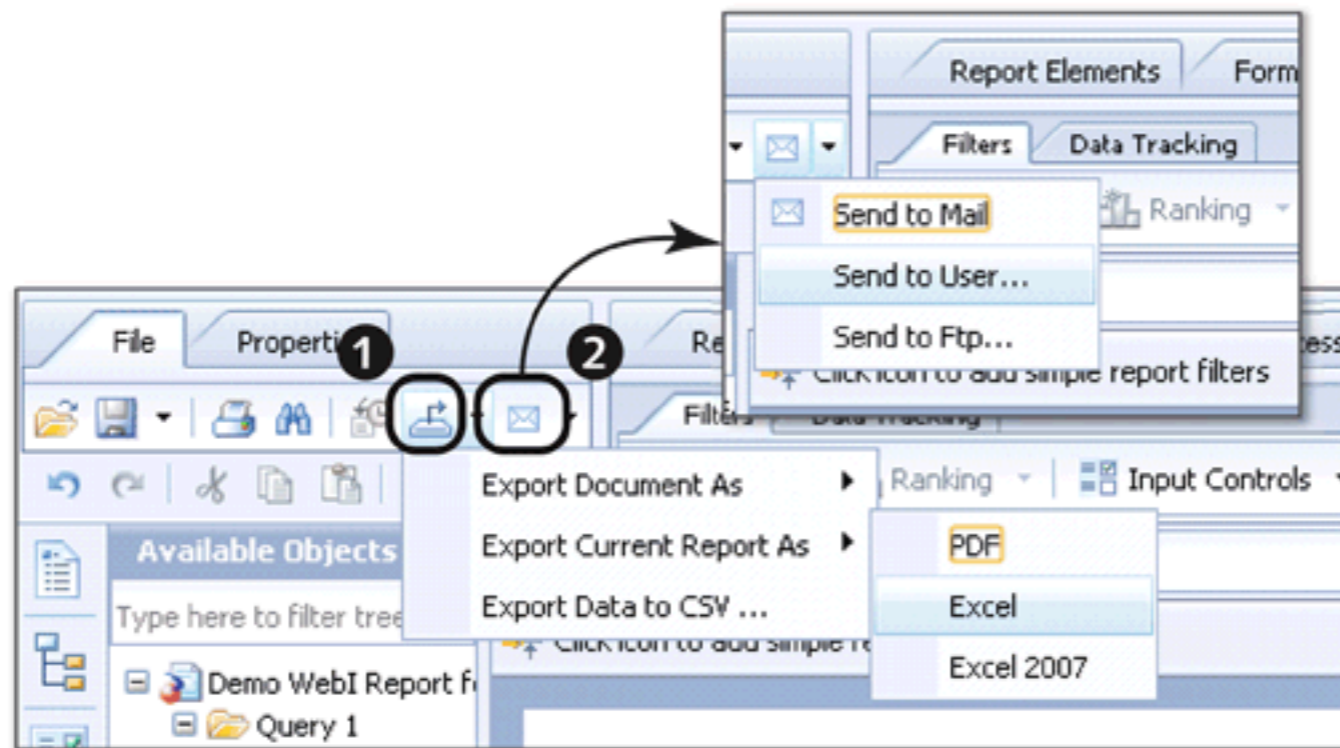

Figure 13.11 Export and Collaboration Options with SAP BusinessObjects Web Intelligence
Several options are available to export reports and analysis created in SAP BusinessObjects Web Intelligence (❶ of Figure 13.11). Reports can also be shared with other users to reap the benefits of collaborative analysis (❷ of Figure 13.11).